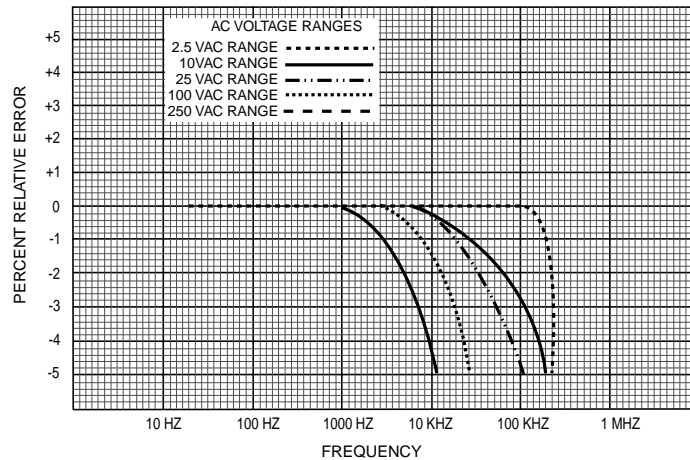

Figure 4-1. Typical Frequency Response, ACV Ranges
**NOTE:** The Simpson 260-6XLPM responds to the full wave average value of an AC waveform. It is calibrated in terms of the RMS value of a pure sine wave. If the waveform is nonsinusoidal, the reading might be either higher or lower than the true RMS value and could result in a substantial error. Also, accuracy is lessened at higher input frequencies (Figure 4-1).
It is often necessary to measure the AC component of a voltage consisting of a mixture of AC and DC voltages, as in amplifier circuits. The 260's have a 0.1  $\mu$ f, 400V capacitor in series with the OUTPUT jack. The capacitor blocks the DC component of the voltage in the test circuit, but passes the AC component. The blocking capacitor alters the AC response of each Instrument at low frequencies. (See Figure 4-1 for Frequency Response.)